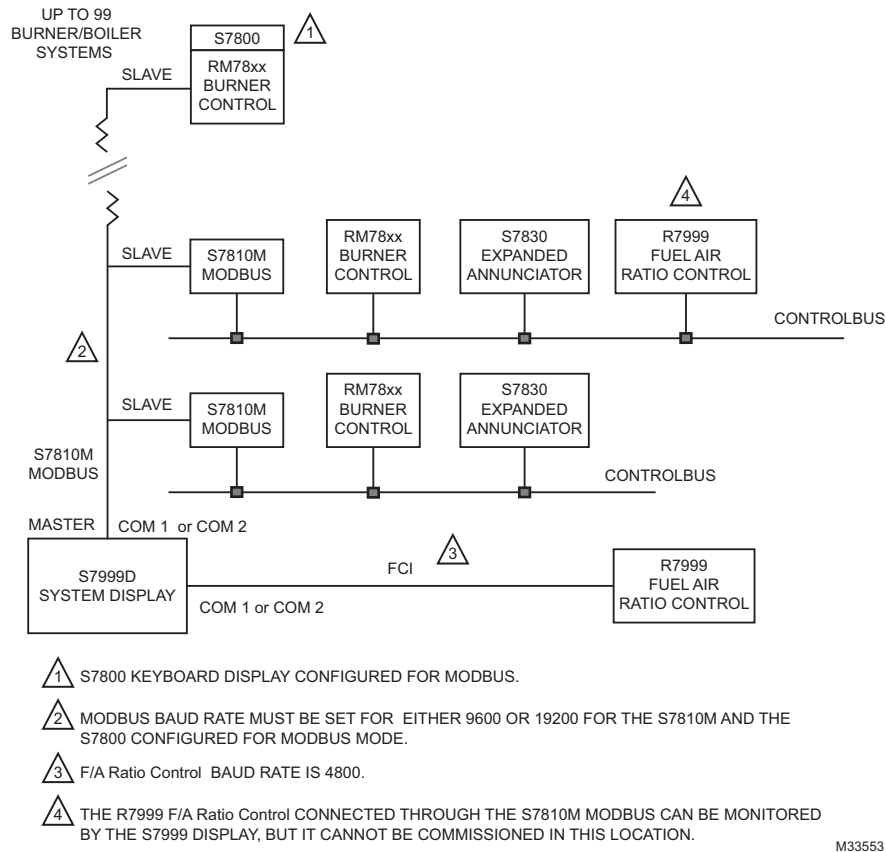

Fig. 2. Example for commissioning the Fuel/Air Ratio Control.
The other COM port has several options or can be disabled. In the example below, the other COM port has been set up for one or more boiler system. (See Fig. 2 & 3 for examples).
The S7999D manages a series of Modbus™ nodes (up to 99 addresses) consisting of 7800 SERIES Burner Controls, ControlLinks™, and UDC devices (see Fig. 2).
- 8 TO PROTECT AGAINST CONDUCTED AND RADIATED TRANSIENT NOISE, USE CLAMP FILTERS (INCLUDED IN 50063482-001 BAG ASSEMBLY) AS ILLUSTRATED IN FIGURES 2 AND 3.